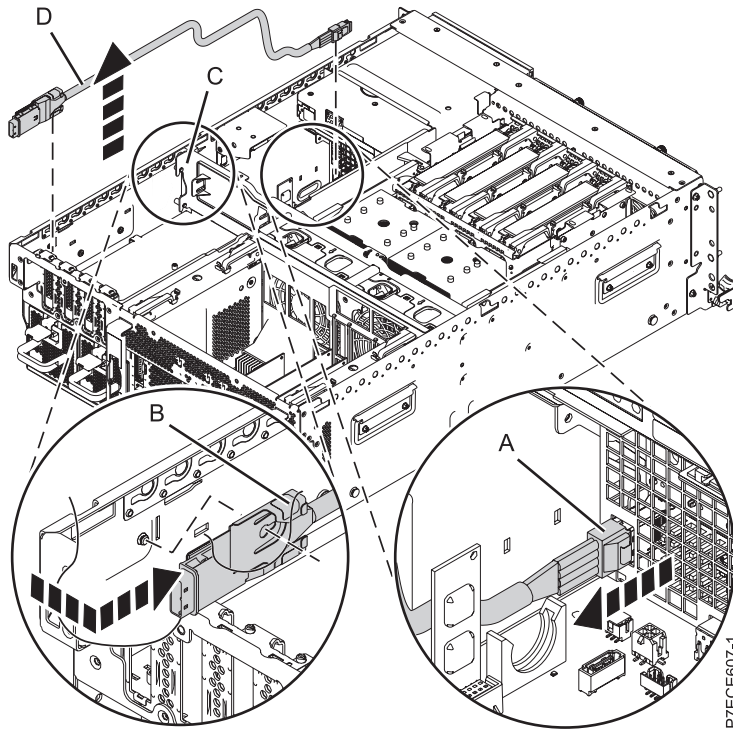

Figure 26. Removing the external SAS port
9. Press the side tab and pull out the SAS shroud (A) from the external SAS connection port on the disk drive backplane, as shown in Figure 26 on page 46.
10. Push the SAS connection port down (B) and then pull out the SAS cable (D) from the system backplane.
11. Pull out the SAS cable (D) from the center brace (C) and out of the system.